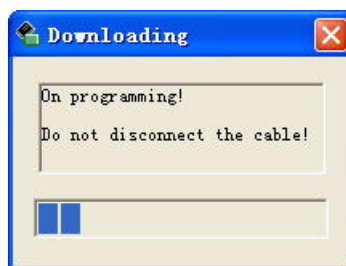

Figure 6-7: Download Message Window
- Step 3: Click Download button or menu bar to start download data to target. On the message window we can find the progress of download (refer to Figure 6-7). If there is any error in this step, this application program will pop up a message window to show the error. The operation information can be finding in the log textbox.